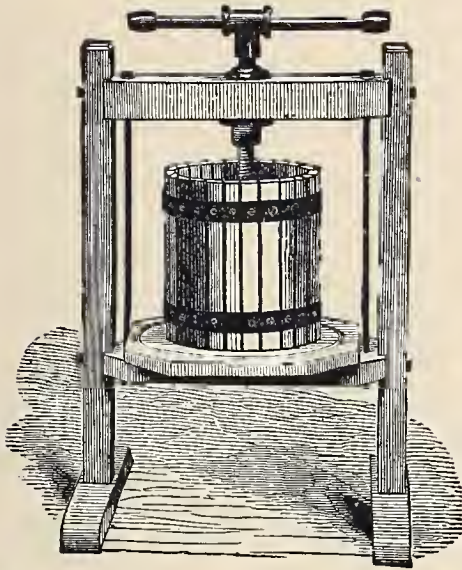
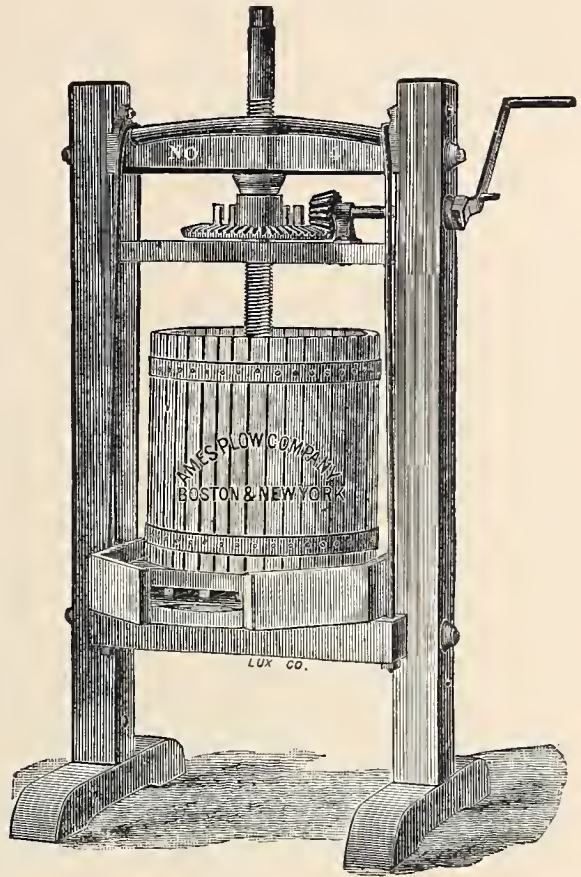

Fig. 420. — Lard, Cider, or Wine Press, Nos. 1 and 2.
Fig. 421. — Lard, Cider, or Wine Press, No. 4, Geared.
*The Lard, Cider, and Wine Press* is made in six sizes. The Nos. 1 and 2, shown by *Fig. 420*, and the No. 3, are light and portable, yet strong, and well adapted for general use. The Nos. 4 and 5 are much heavier and stronger, and are suited to the wants of large producers. *Fig. 421* shows the No. 4 size with geared serew, by means of which more pressure is obtainable. This size is also made with plain serew. The No. 5 press is always furnished with geared serew.